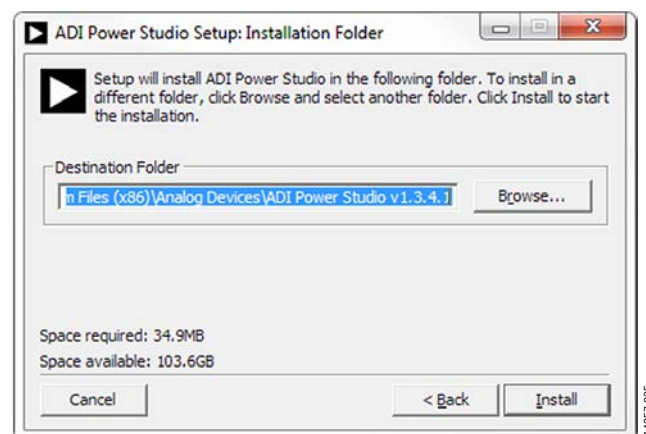

Figure 5. Installation Location
4. In the **ADI Power Studio Setup: Installation Folder** window, there is an option to select a custom installation location, as seen in Figure 5. Click **Browse** to navigate to the preferred installation location (optional). Click **Install** to install the GUI onto the computer.